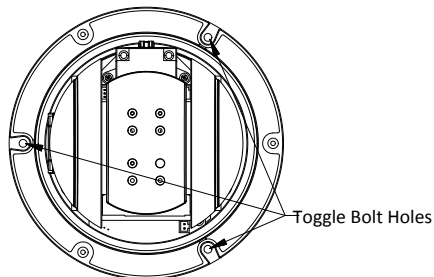

Figure 2-10 Toggle Bolt Holes
- 2) Insert the bolts into the screw holes on the speed dome as shown in Figure 2-10.